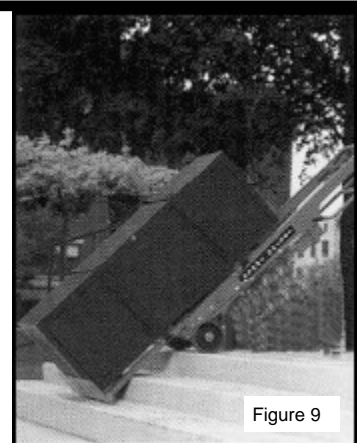

Figure 9
1. At the top of the steps, recline your load back, and extend your load down **two** steps. The load should come to rest about $\frac{1}{4}$ of the way back from the front of the step. (Figure 9)